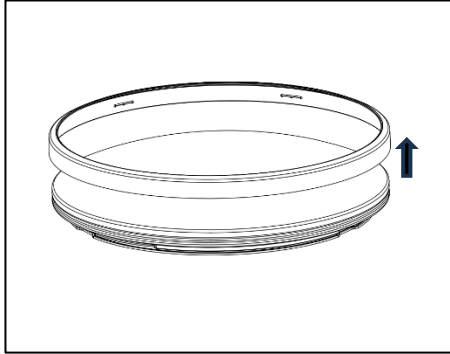

Figure 5
2. Remove the white deco trim (3) from the diffuser by removing it from the diffuser's top side only, and vice versa to install the provided black trim (See Figure 5)